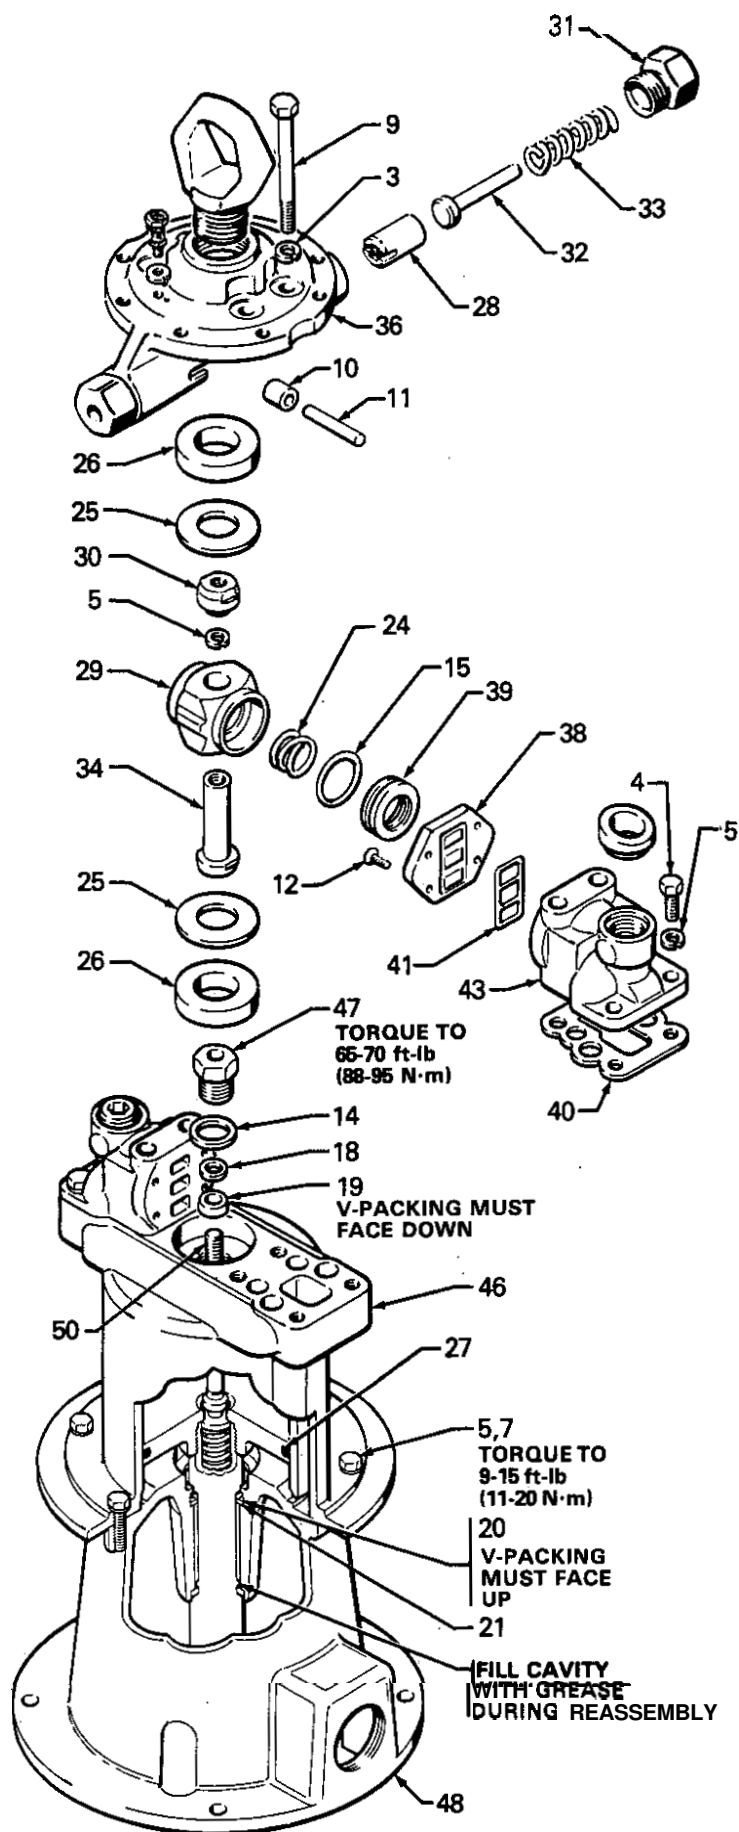

Fig 6-1
1. Remove the screws (7) and lockwashers (5) and pull the cylinder (46) **straight up** off the piston. See Fig 6-1.
2. Remove the trip rod bearing (47), using a 1 in. socket wrench. Remove the gasket (14), washer (18) and packing (19) from the bearing. See Fig 6-1.
3. Grease the cavity in the base (48) and install a washer (21*) and a v-packing (20*) so the lips of the v-packing **face up** in the base. See Fig 6-1 and 6-2.
6. Guide the piston assembly and cylinder into the base, aligning the cylinder and base correctly. Install the lockwashers (5) and screws (7), and torque to 9-15 ft-lb (11-20 N·m). See Fig 6-1.
7. Install a backup washer (18*) and v-packing (19*) in the bearing (47) so the lips of the v-packing **face down** in the cylinder. Install the gasket (14*) on the bearing. Install the bearing in the cylinder throat. Use a 1 in. socket wrench to tighten the bearing to 65-70 ft-lb (88-95 N·m). See Fig 6-1.
8. Install the dampener pad (26) and washer (25) in the cylinder throat.
10. Slide the hub (34) onto the rod (50). Grasp the rod below the hub with the special locking pliers. Screw the hub down as far as possible. See Fig 6-1.
12. Install an O-ring (15*) on each director valve (39). Grease the director valves and springs (24) and place them in each side of the air valve housing. Hold the parts in at the top and carefully rotate the valve housing until it slides down between the manifolds. Be very careful **not** to pinch your fingers! See Fig 6-1.
14. Grease the plunger (28) and guide (32) and install them with the spring (33) into each side of the detent housing (36). **Loosely** screw a retainer (31) into each side of the housing. See Fig 6-1.
15. Install the dampener pad (26) and washer (25) in the bottom of the detent housing. Grease and assemble the axles (11) and rollers (10) and install them in the detent housing. See Fig 6-1.
16. Position the detent housing on the manifolds and loosely install the washers (3) and screws (9). Now finish tightening the retainers (31) simultaneously. Finally, tighten the screws (9) firmly.